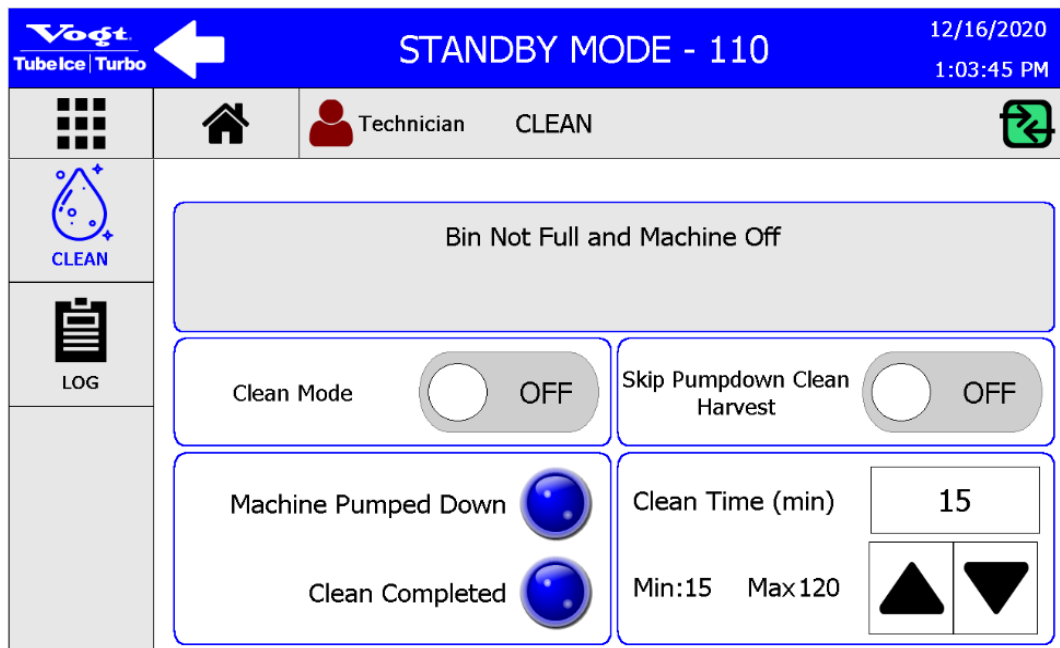

Figure 19: CLEAN Screen – Clean Completed
11. When the machine has completed a cleaning cycle, the icon next to **Clean Completed** will turn blue and the machine will automatically turn off the **Clean Mode**. See Figure 19. Repeat cleaning if necessary.
15. When the machine has completed a sanitizing cycle, the icon next to **Clean Completed** will turn blue and the machine will automatically turn off the **Clean Mode**. See Figure 19.